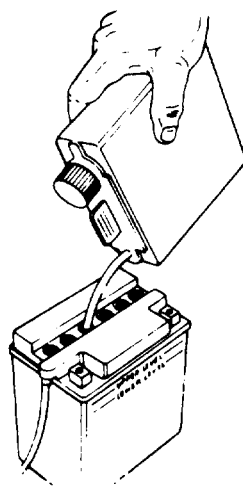

FIGURE 3.
6. Fill each battery cell slowly and carefully to the UPPER LEVEL line marked on battery. See figure 3.